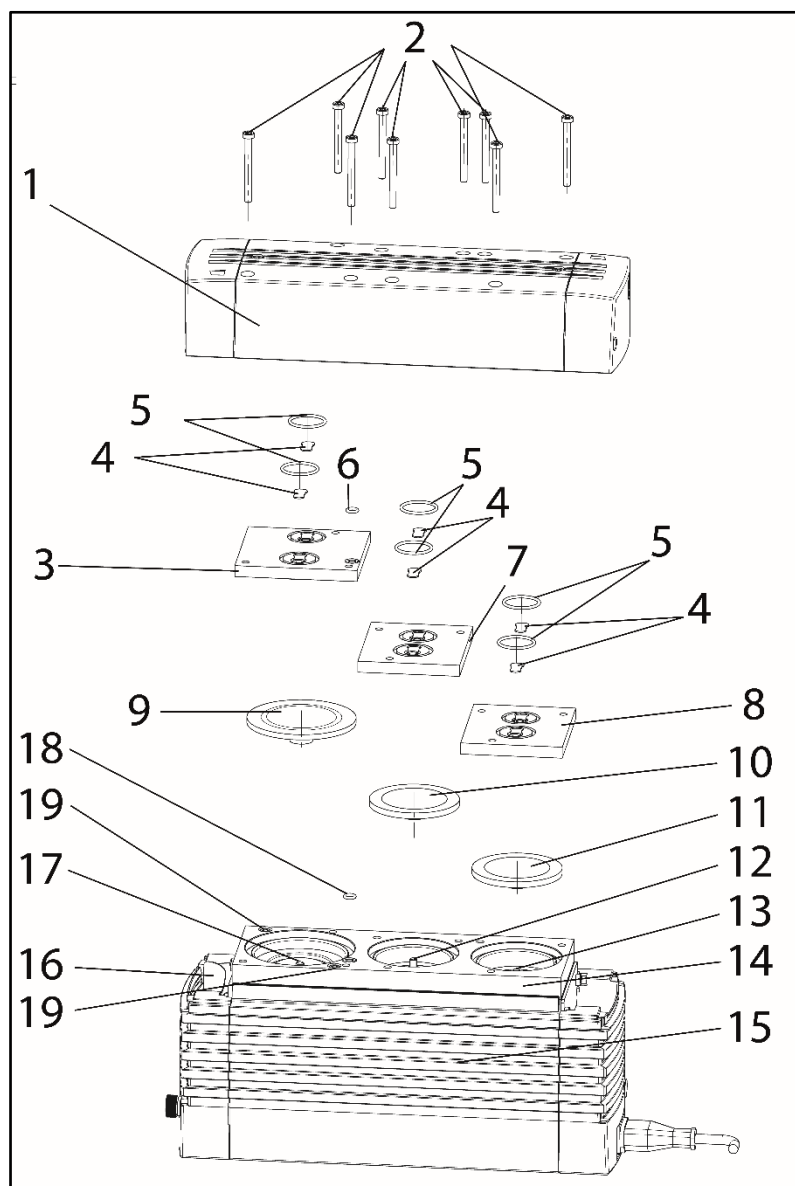

Fig. 17: Exploded drawing N 920 APE-W
1. Undo the nine screws (2) in the head cover (1) and lift the head cover off the pump housing (15) (see Fig. 17)
2. Mark the position of intermediate plate (3) and diaphragm recording (14) relative to each other by a drawing line with a felt-tip pen. This helps avoid incorrect assembly later.
3. Mark the position of intermediate plate (7) and diaphragm recording (14) relative to each other by two drawing lines with a pencil.
4. Mark the position of intermediate plate (8) and diaphragm recording (14) relative to each other by three drawing lines with a pencil.
5. Lift the intermediate plates (3), (7) and (8) off the diaphragm recording.